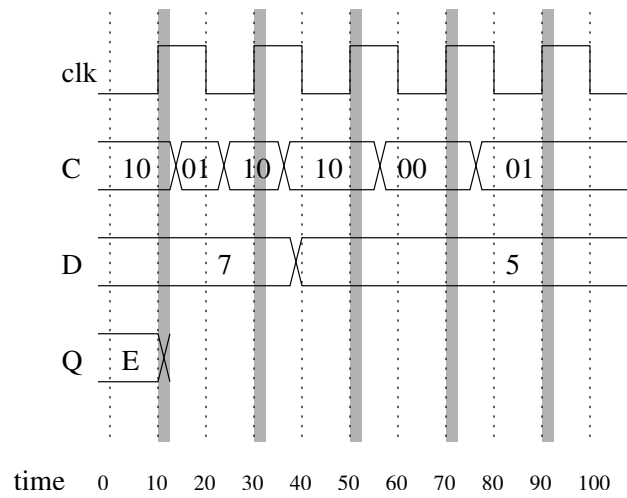

Figure 6.2: The timing diagram for a 4-bit counter in Problem 12.
12. (5 pts.) Complete the timing diagram in Figure 6.2 for a 4-bit counter. Use the control setting from the truth table on page ??.